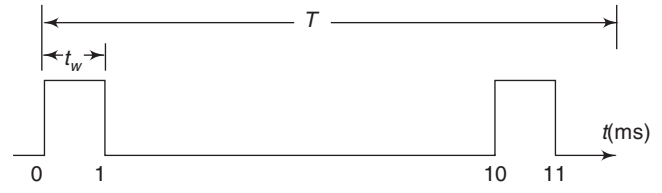

Fig. 7.7 For P7.9.
7.9 Determine the duty cycle of the waveform in Fig. 7.7.